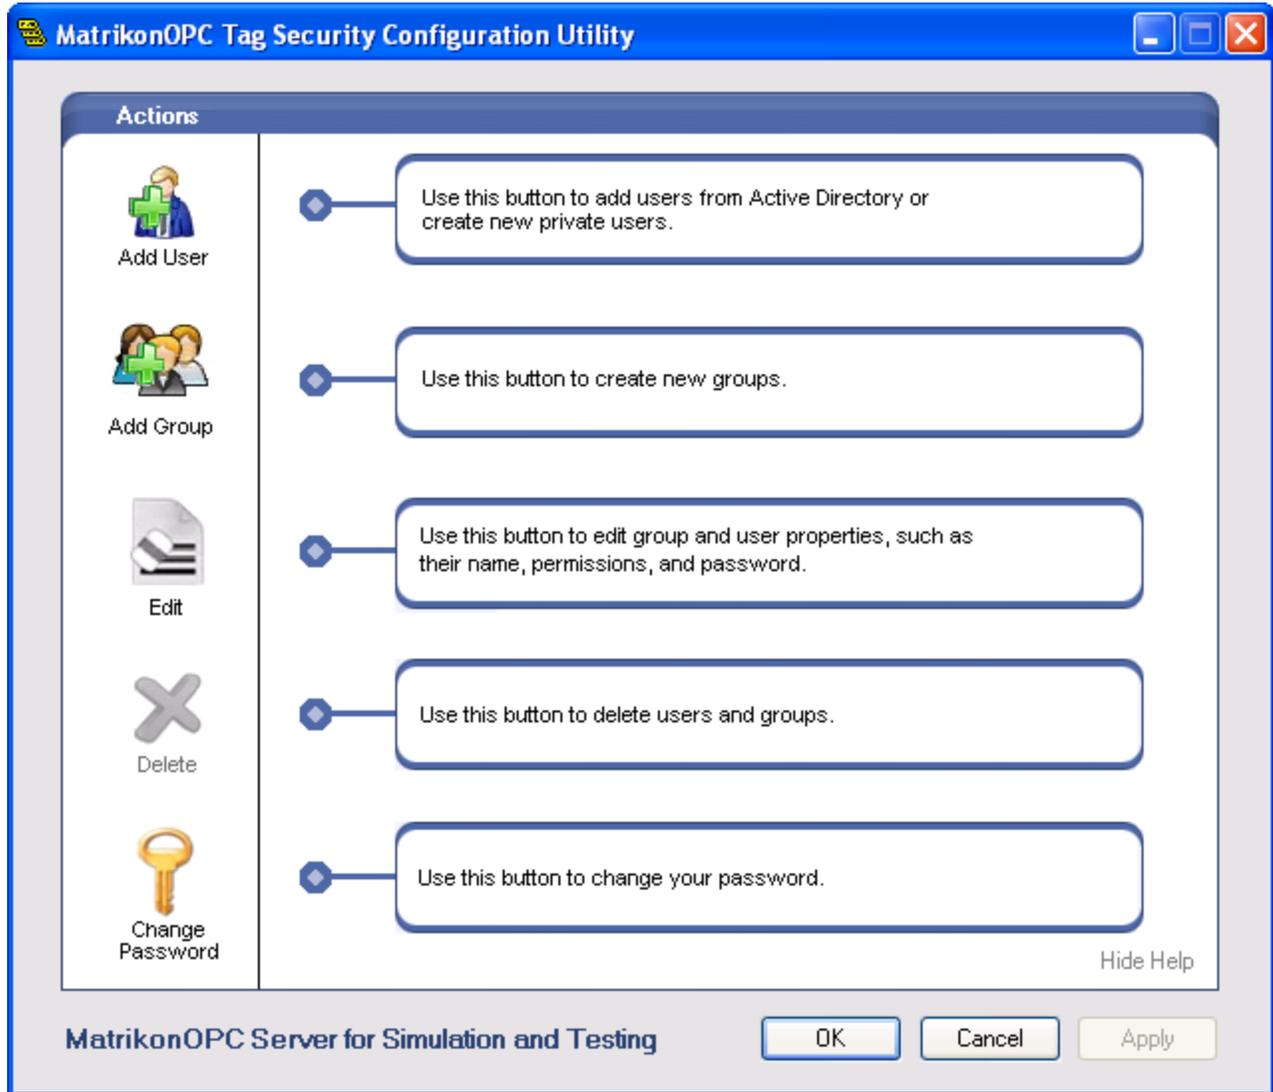

Figure 43 - MatrikonOPC Tag Security Configuration Utility Main Screen
4. The **MatrikonOPC Tag Security Configuration Utility** screen (Figure 43) appears.
The **MatrikonOPC Tag Security Configuration Utility** screen displays the name of the OPC server that is being configured for tag security. In Figure 43 above, the **Utility** screen shows that the **MatrikonOPC Server for Simulation and Testing** tag security is being configured.